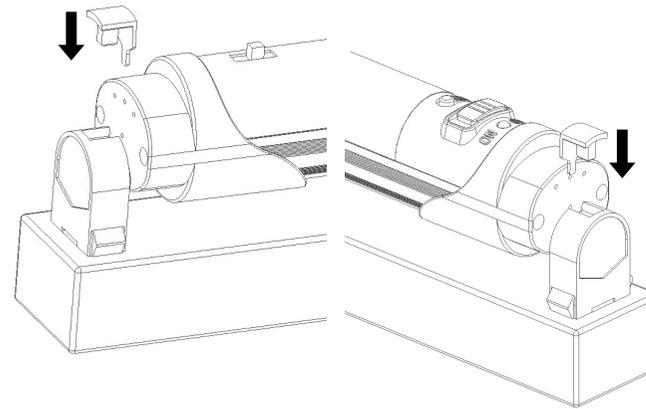

Fig. 2
10. Install the lamp locks into the lamp holders (see Fig. 2).